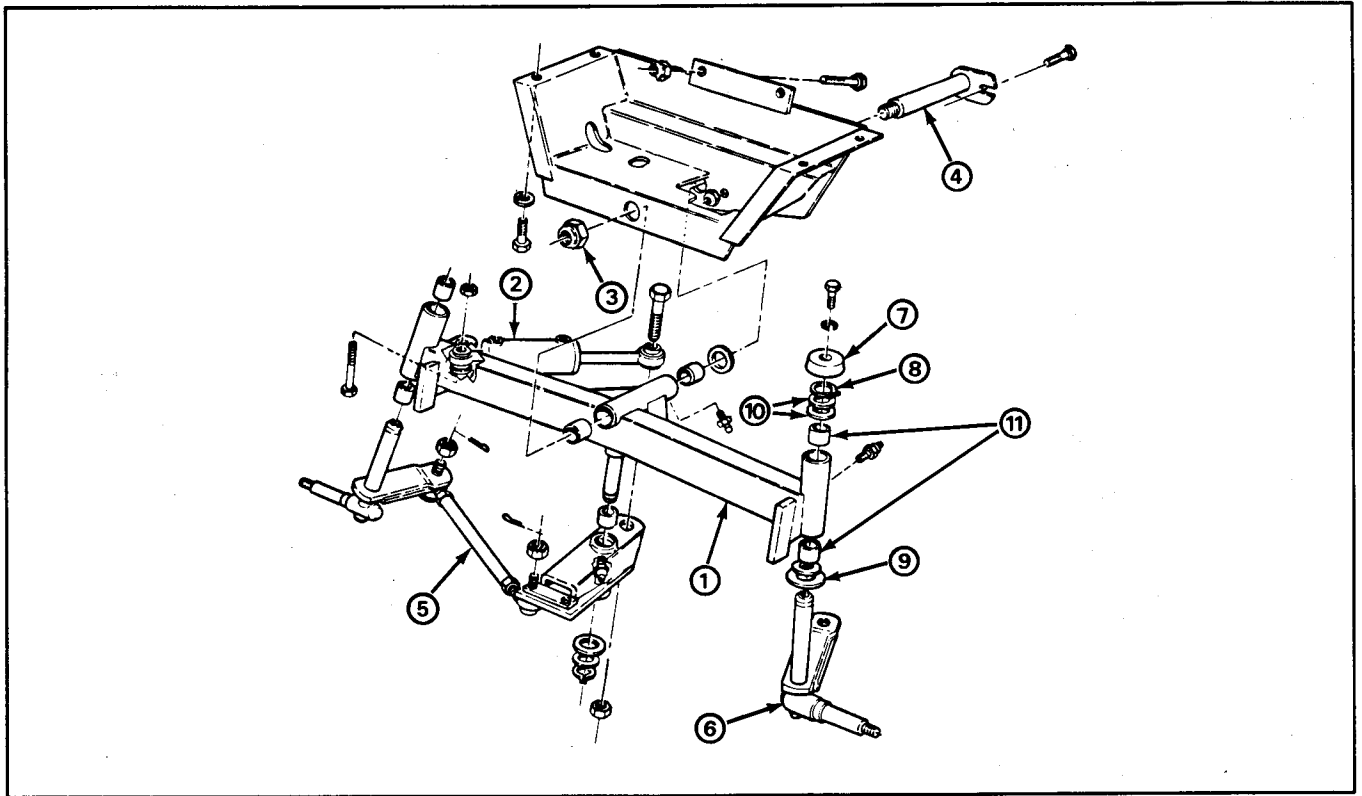

Figure 12
2. Remove the large lock nut from the end of the axle pivot pin (Fig. 12).